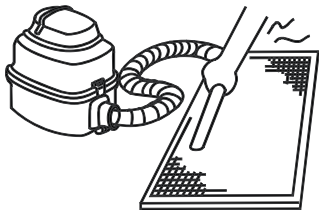

Figure 13.3
- a. The air intake side should face up when using a vacuum cleaner. (Refer to Fig.13.3)